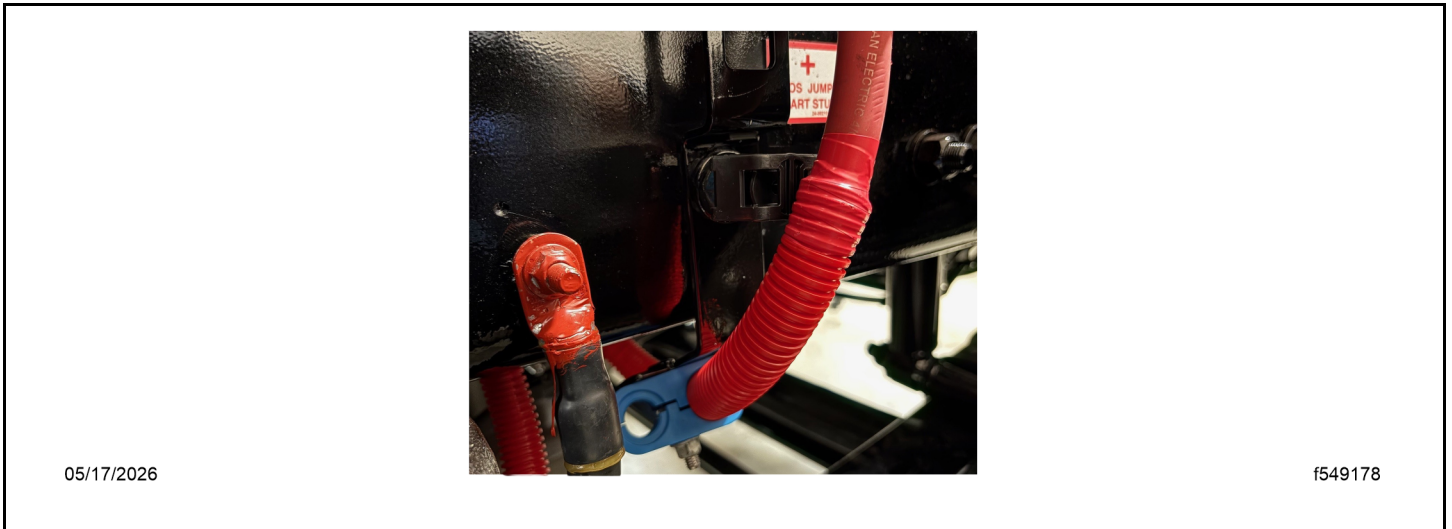

Fig 160, Routing Over the Tie Block
24. Install the 5/8 inch (16 mm) tie block (23-13805-062) on the bottom isolator bracket frame bolt so the cable routing can be set passing by it. See Fig. Fig. 160.